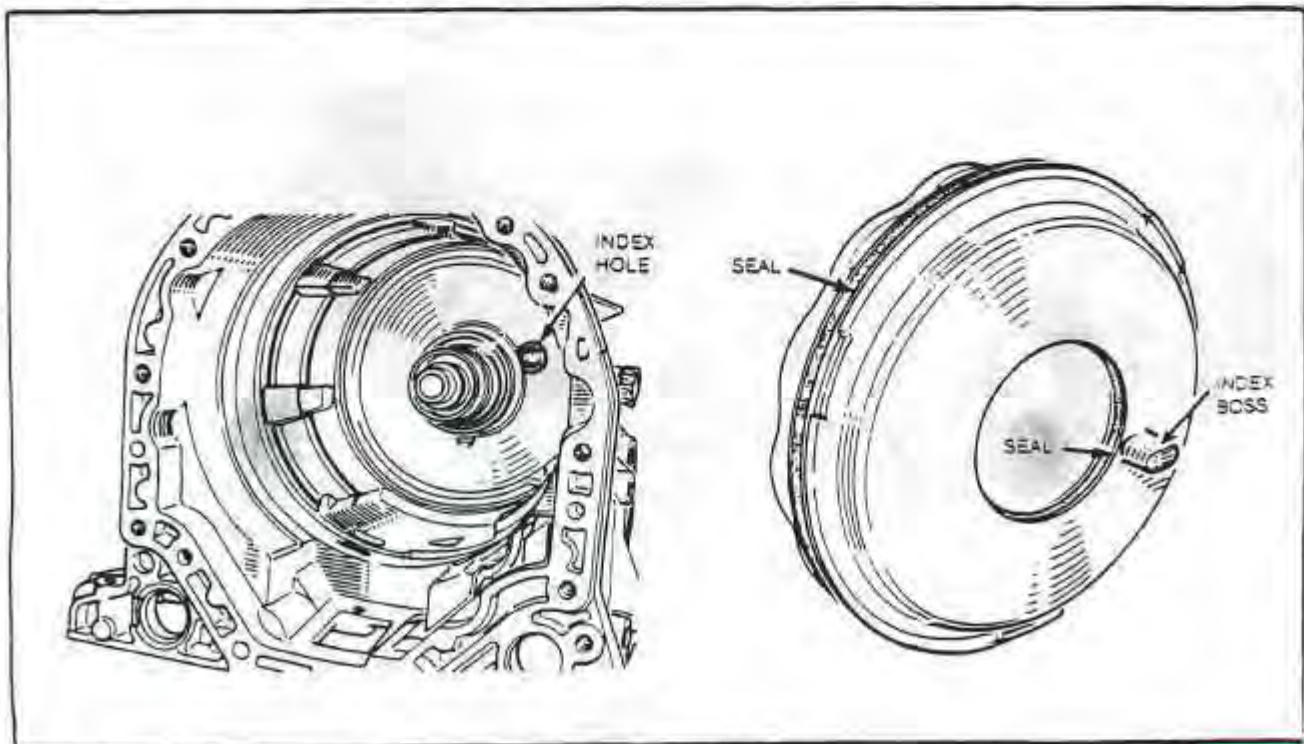

Fig. 49 BRAKE B-1 PISTON
1. Lubricate the two (2) square section seals with transmission fluid and fit them to the piston. *Fig. 49*
3. Lubricate the piston with transmission fluid and insert the piston into the case aligning the locating boss on the piston with the hole in the transmission case. *Fig. 49*